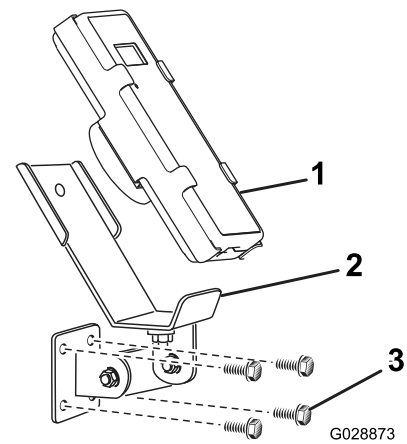
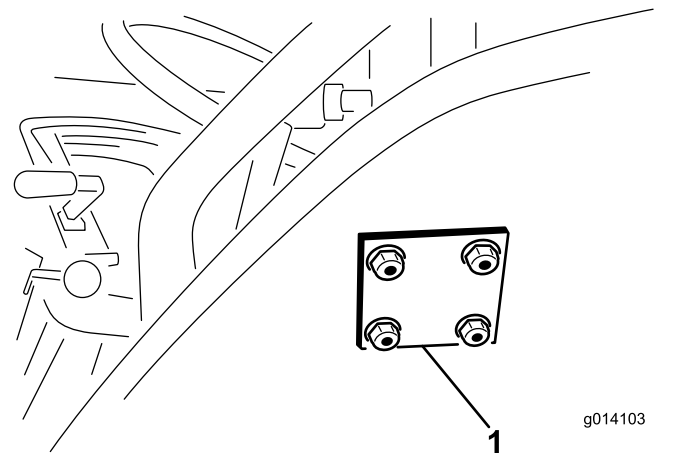

Figure 14
Figure 15
3. Attach the mounting bracket and backing plate with 4 flange head bolts (5/16 x 1-1/2 inch) and flange locknuts (Figure 14 and Figure 15).